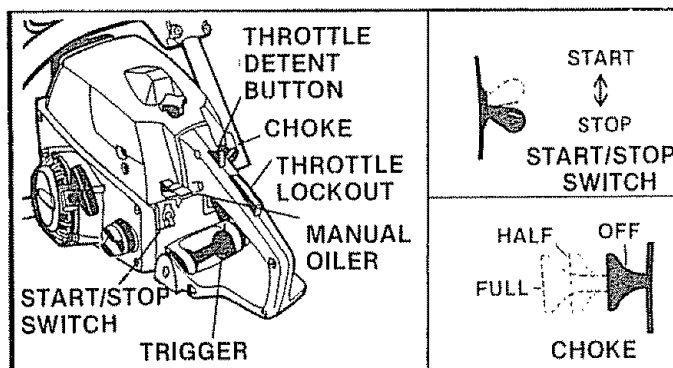

Figure 13
Understanding the control devices on your saw is an important part of learning how to properly and safely operate the unit. Figure 13.
- e. Stop engine by moving the ignition switch to the "STOP" position (Figure 13).
\* Allow engine to warm-up thoroughly on half-choke, then move choke to the "Off" position. Do not cut with the choke at the "On" or "Half" position. Figure 13.